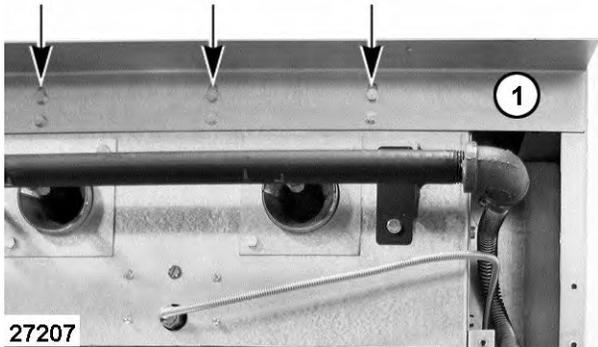

Fig. 4
- A. Loosen several screws securing brace [1] Fig. 4 to broiler frame near the side panel to remove. The upper front right of the broiler is shown in Fig. 4.